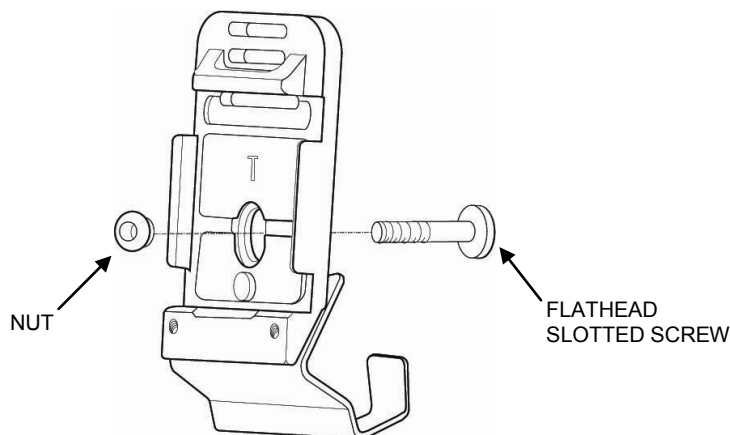

Figure 3. New NVG Bracket Assembly.
- The tan (new) NVG bracket has a screw and self-locking nut as shown in Figure 3. See WP 0027, Additional Authorization List, for appropriate NSN.